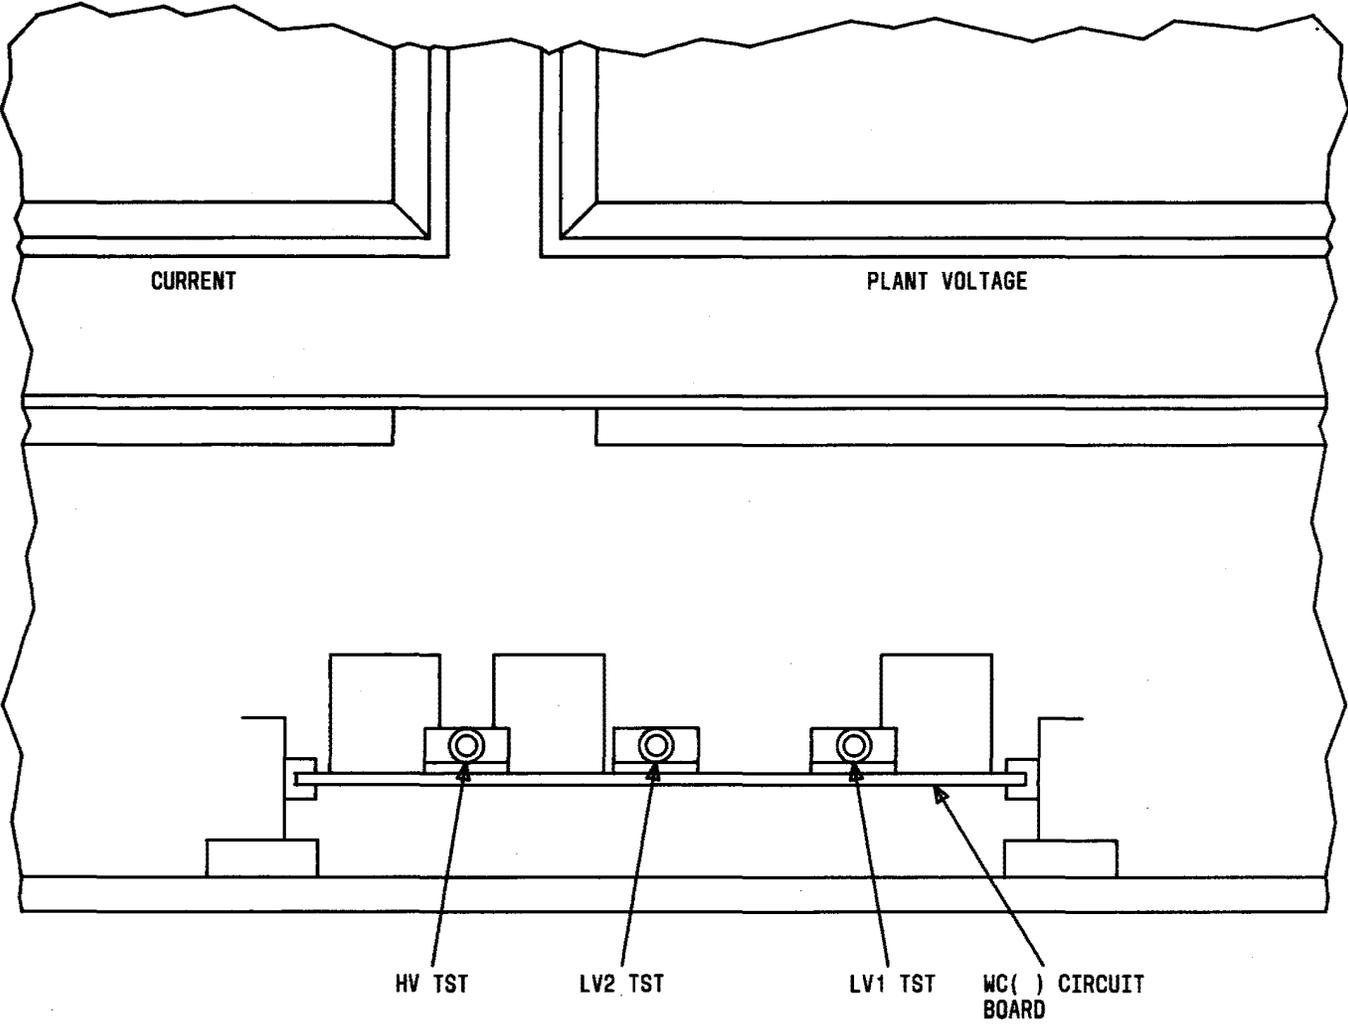

Fig. 16—J85516C Plant Control Unit—(Partial View—Lower Front Panel Removed)
- (2) On the WC2 circuit pack (Fig. 16), operate the HV TST switch to the test position.
- (3) Release the HV TST switch.
- (4) Replace the lower front panel of the plant control unit.